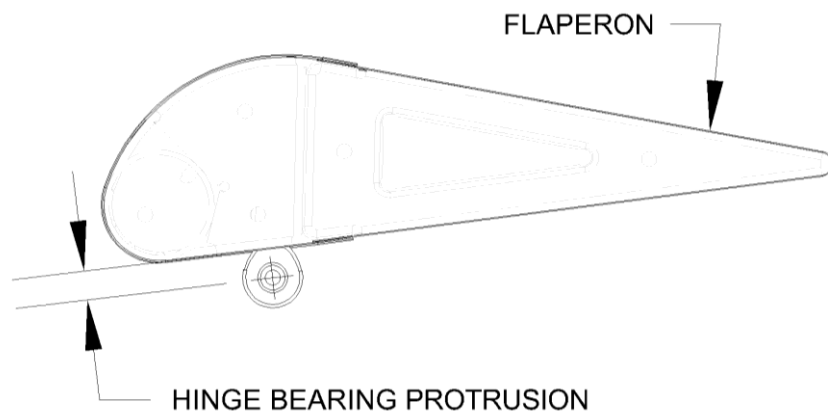

Figure 15: Flaperon hinge
4. Measure and record the hinge bearing protrusion measurement as shown in **Figure 15**.